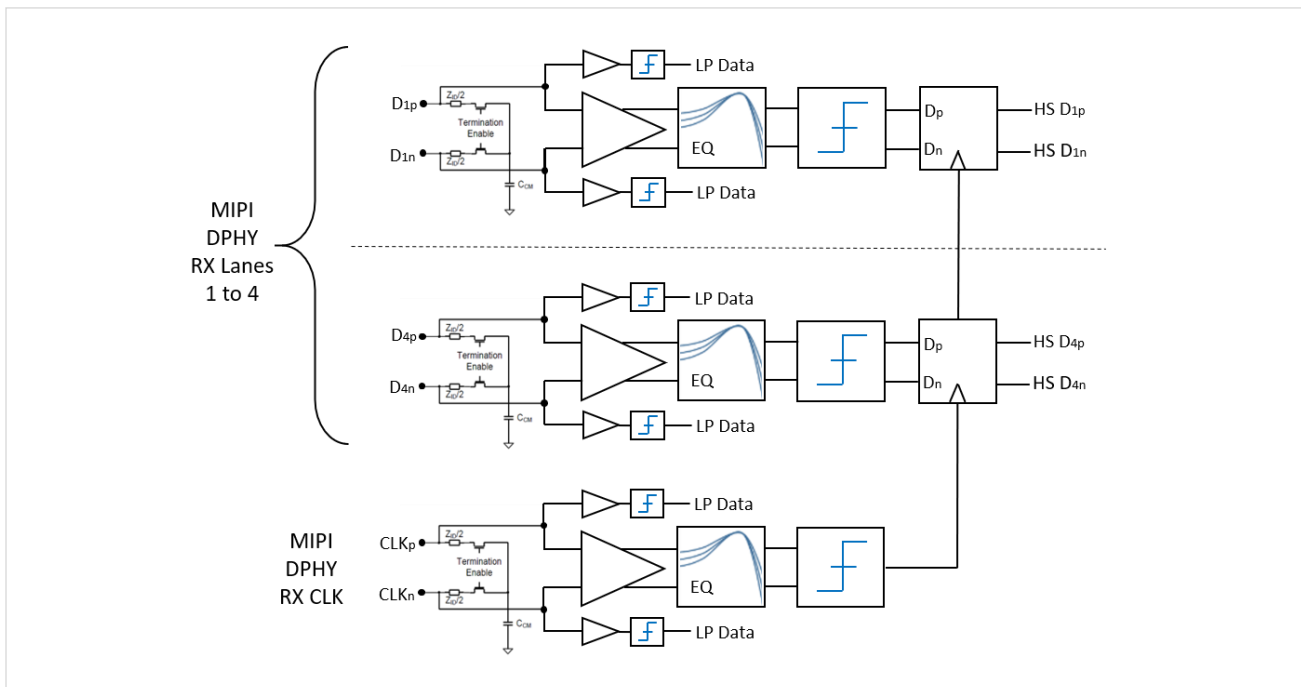

Figure 1: SV4E-DPRX receiver detail illustrating LP detection and HS receivers for Data and Clock lanes
The SV4E-DPRX MIPI D-PHY Analyzer is a complete, integrated, 4-lane D-PHY receiver providing the analog front-end circuitry for D-PHY as well as a complete protocol back-end. As shown in Figure 1, each lane contains low power (LP) programmable threshold voltage detectors, dynamically controlled termination resistors, and fully differential high-speed (HS) receivers. The real-time behavior of the DPRX enables broad acquisition capabilities for physical-layer and protocol-layer testing.